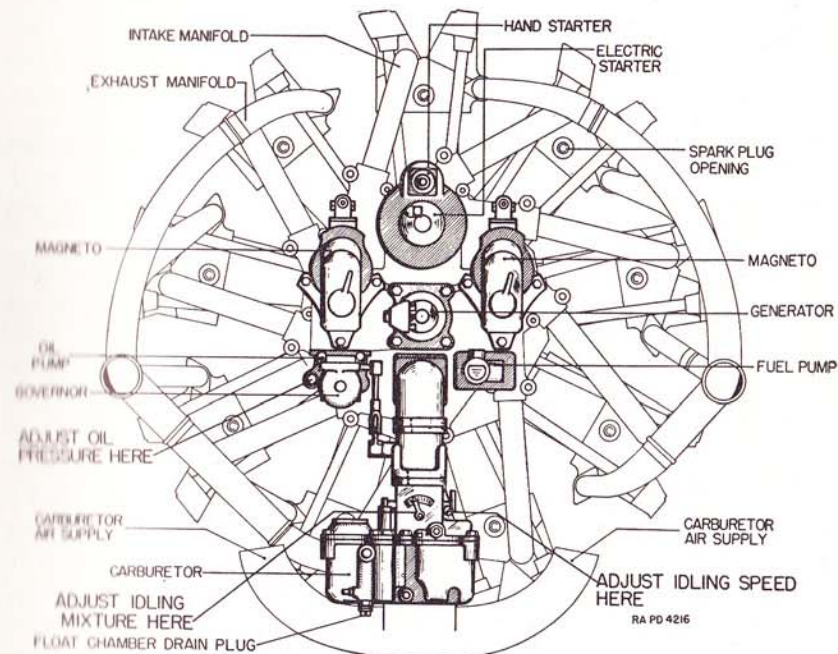

FIGURE 22.—Engine, showing accessories, adjustment of carburetor, and oil pressure.
42. General description (fig. 22).—*a.* The Wright Whirlwind R-975-EC2, a single row, air-cooled, radial, aviation type engine, is used.
*b.* The two magnetos, starter, generator, and fuel pump are mounted on the rear face of the rear crankcase section (fig. 22). The carburetor is mounted on the extreme lower end of the rear section.
46. **Oil pumps (fig. 22).**—*a.* The supply of oil in the engine crankcase is maintained by oil pumps which draw oil from the engine oil tanks located at the bulkhead between the engine and fighting compartments, or which circulate the oil within the engine itself. These are gear type pumps which are supported on the lower left side of the rear crankcase section in the case of the main pump, and in the nose section in the case of the other scavenge pump. The main pump is divided into two sections: a separate pressure pump and a scavenge pump. This scavenge pump returns the oil from the upper section of the sump to the oil filter. The scavenge pump located in the nose section removes oil from the lower section of the sump. Both return lines from the scavenge pumps join together before running into the Cuno filter. The main oil pump incorporates a pressure relief valve which comprises a spring-loaded ball that rises when the desired pressure is reached and allows the excess oil to be drained into the inlet side of the pump. Pressure regulation is accomplished by turning the adjusting screw clockwise to raise the pressure and counterclockwise to lower the pressure which raises or lowers the tension in the spring (see fig. 22). The oil pressure should be between 50 and 80 pounds per square inch in normal operation.
- (1) Remove rear top plate.
- (2) Remove mufflers and elbows by removing 4 bolts on each mounting elbow. The muffler can be disconnected from the engine exhaust manifold by unclamping the manifold connection and pushing the pipe on the manifold side up into the muffler in order to clear the two ends (see fig. 22).
- (1) Remove the terminal guard and disconnect leads.
- (2) All leads should be marked to identify their proper position for replacement.
- (3) Remove the four nuts holding the generator to the accessory case.
- (4) Loosen the generator retaining bracket nut and slide the generator to the rear.
**54. Fuel pump** (fig. 22).—*a. Description.*—The fuel pump is mounted on the engine accessory case to the right of the generator.
- (1) Close fuel shut-off valves. The two main valves are located in bulkhead below oil tank.
- (2) Remove cap screws and open rear doors to engine compartment.
- (3) Disconnect fuel lines attached to pump.
- (4) Remove locking wires and nuts holding the pump to the accessory case.
- (5) Remove pump.
- (6) To replace pump reverse the procedure.
**55. Carburetor** (fig. 22).—*a. Description.*—The carburetor is attached directly to the intake manifold in the bottom of the engine crankcase.